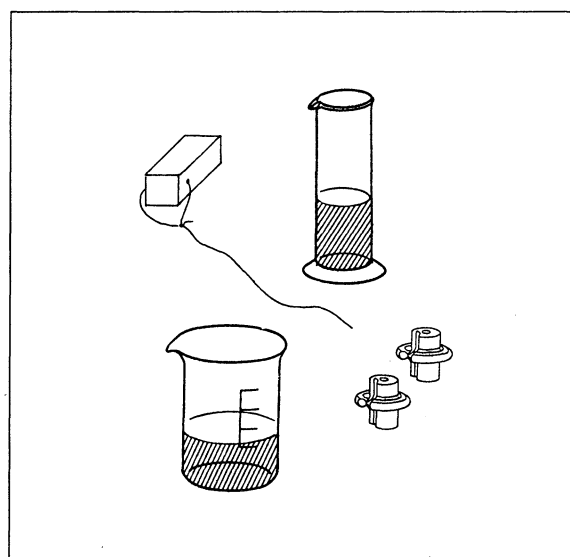

Fig. 1 ► 1.
1. Lay out the apparatus ready for use, as shown in fig. 1.